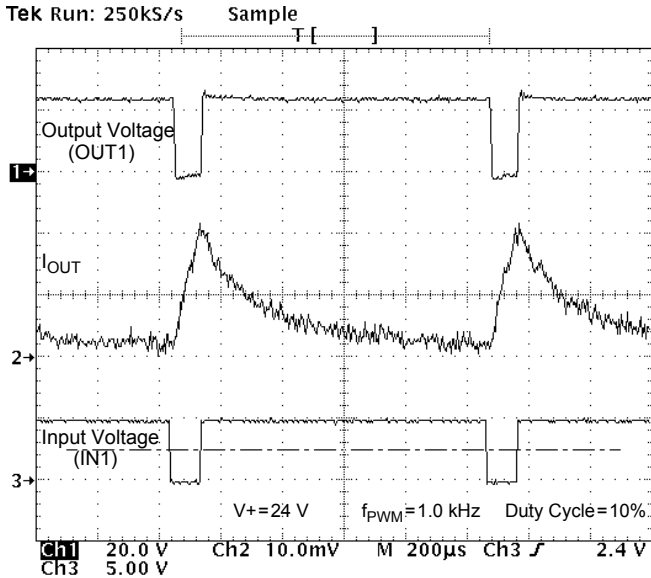

Figure 11. Output Voltage and Current vs. Input Voltage at  $V^+ = 24 \text{ V}$ , PMW Frequency of 1.0 kHz, and Duty Cycle of 10%
- The outputs can be PWM controlled from an external source. This is typically done by holding one input high while applying a PWM pulse train to the other input. The maximum PWM frequency obtainable is a compromise between switching losses and switching frequency. Refer to Typical Switching Waveforms, Figures 11 through 18, pp. 12–13.